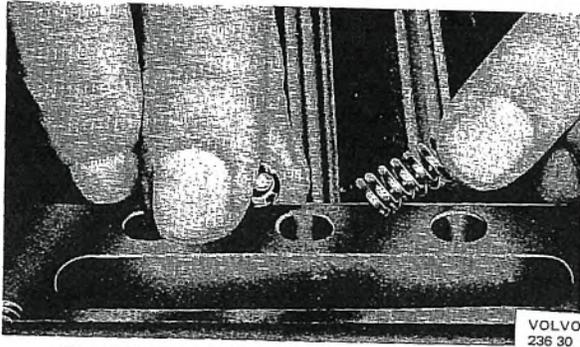

Fig. 4-24. Installing interlock balls and springs
9. Place the interlock balls and springs in position, see Fig. 4-24. Fit on the gearbox cover. Check that all the gears engage and disengage freely.